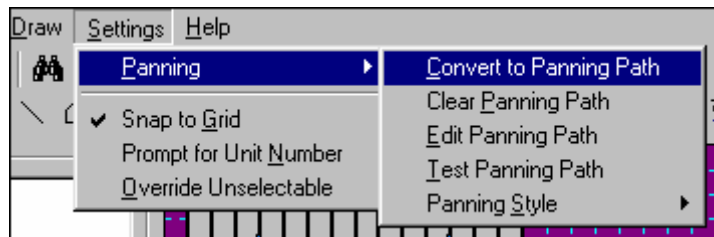

Figure 36
- Then select 'Settings > Panning > Convert to Panning Path' (Figure 36).